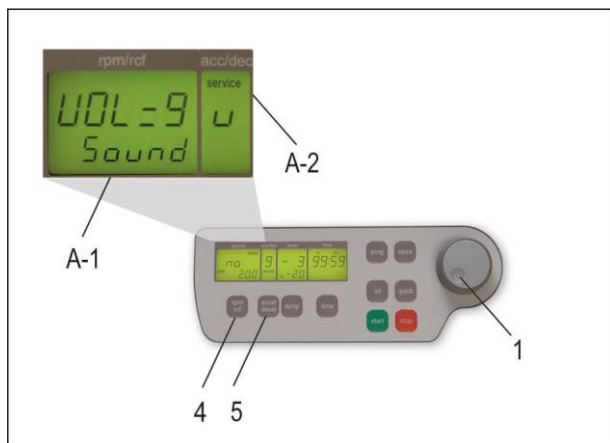

Figure 6
Proceed as illustrated, under point 1.8.1, to enter this program mode, press the key "accel/decel" (5). In the display, "accel/decel" (A-2), flashes the word, "service". Select the letter, "U" with the adjustable knob (1). As a result, appearing in the display, "rpm/rcf" (A-1), are the words, "Vol=0- 9/Sound". By pressing the key, "rpm/rcf" (4), the desired volume can be adjusted between 0 (low) and 9 (loud), with the adjustable knob (1), (see Figure 6).